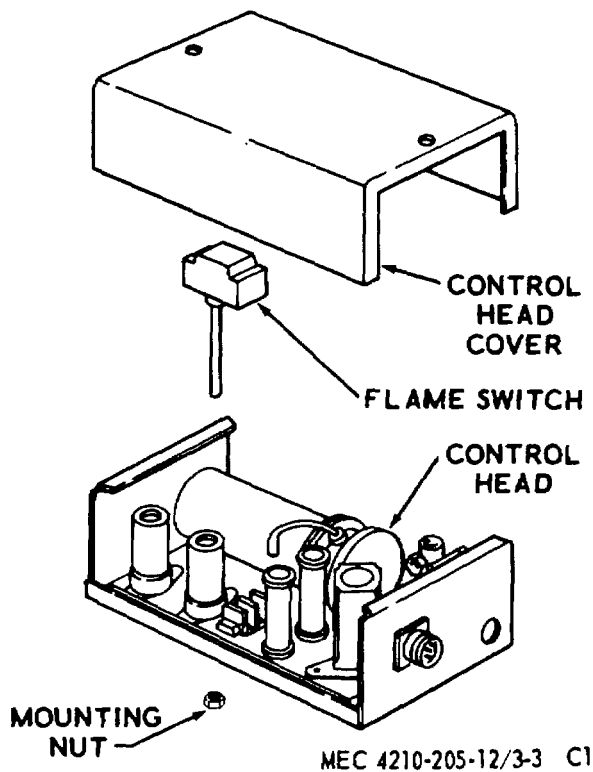

Figure 71.23. Flame switch removal and installation.
187. Flame Switch, Liquid and Space Heaters (fig. 71.23).
- (1) At room temperature, check for continuity across terminals 2 and 4 and terminals 2 and 5 (fig. 71.23) with an ohmmeter. If continuity exists, continue the test.
- (2) Apply heat to the flame switch tube. The switch should change to hot position at 400° to 500°F. Continuity should now be across terminals 1 and 2 and terminals 1 and 5. Allow the